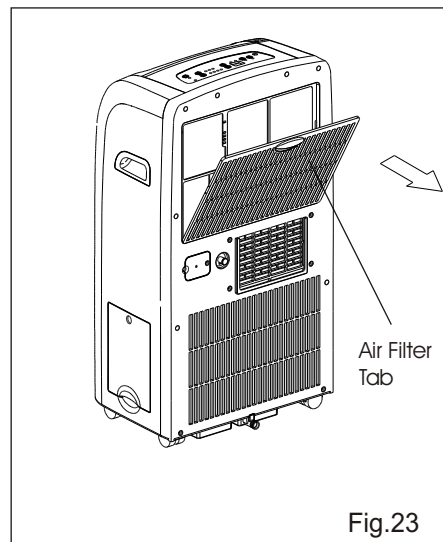

Fig.23
- 2) Pull the filter "out" then "up". Fig. 23.